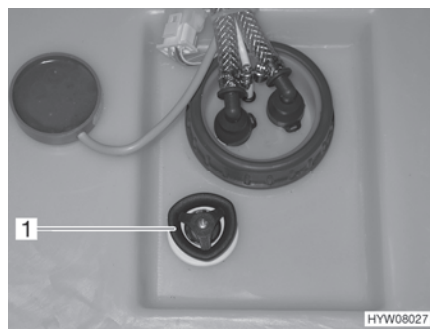

Fig. 130 Water tank with rotary handle
- Turn the rotary handle (Fig. 130,1) on the water tank in an anticlockwise direction as far as possible beyond the resistance to fully open the drainage opening.